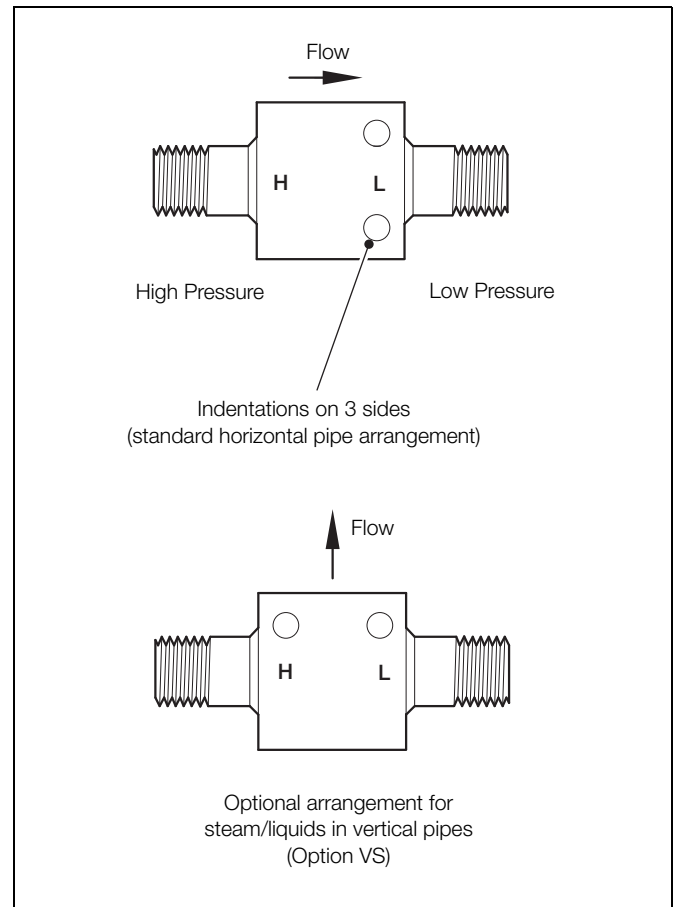

Fig. 2.1 Torbar Head Flow Alignment Marks
The direction of flow is indicated by the small indentations on the head – see Fig. 2.1. The indentations must be positioned on the downstream side of the flow and are clearly visible from various directions and distances. Exceptions to this are Models 121, 122, 123, 511 and 512, and Direct Mount Head (DM) options.
Referring to Fig. 2.1, install Torbar:
To ensure an equal head of gas, liquid or steam in both instrument lines, Torbar option VS is designed so that the instrument lines are in the horizontal plane when the Torbar is installed (see Fig. 2.1).
10. Turn the Torbar until the indentation marks on the head are positioned downstream of the flow – see Fig. 2.1, page 3.
14. Turn the Torbar until the indentation marks on the head are positioned downstream of the flow – see Fig. 2.1, page 3.